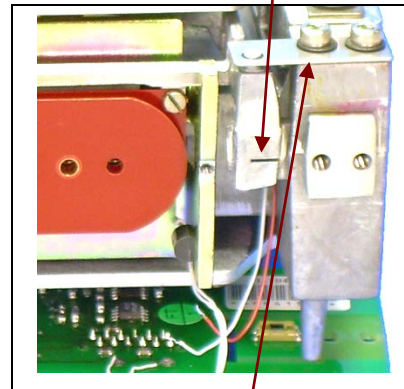

Figure 3-56. Sideways Motion Stop Plate.
17. Remove the screws in the Sideways Motion Stop Plate, and lift it off. (See Figure 3-56.)